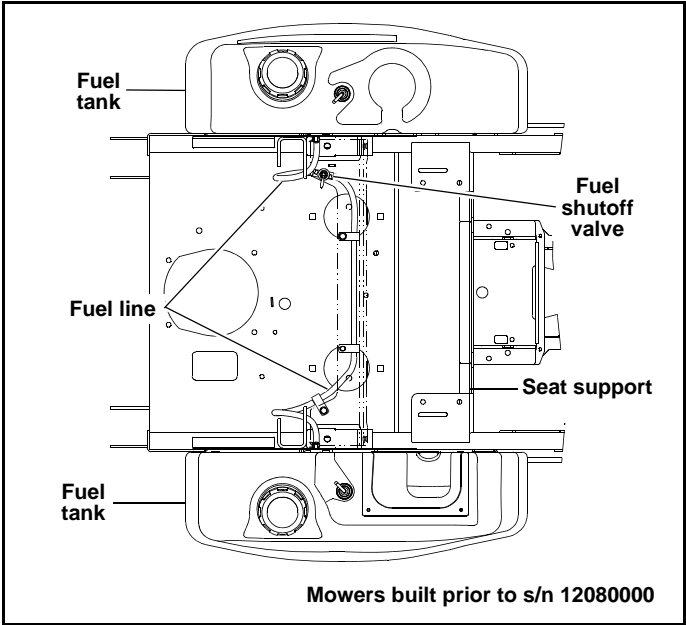

Figure 5-5
**On mowers produced prior to s/n 12080000** the fuel hose is connected to the port on the side wall of the fuel tank. It connects the fuel tank to the fuel shutoff valve. Figure 5-5